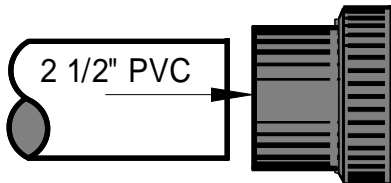

Figure 4
4. If the A&A layout calls for a 2 1/2" suction line, the 2 1/2" PVC pipe can be glued into the Union Coupler (see Figure 4).